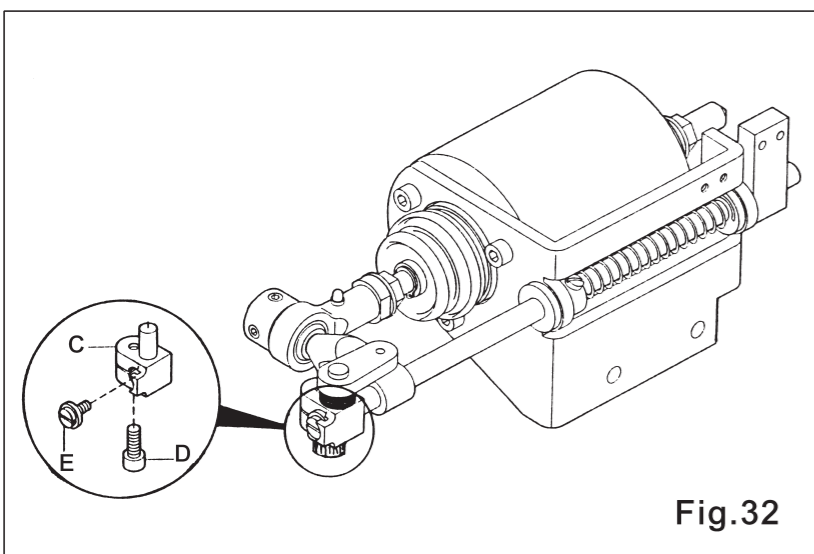
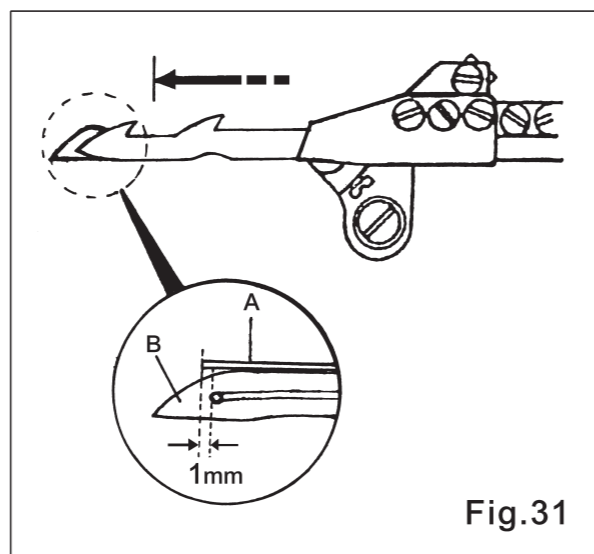

Fig.32
Fig.31
When the Moving Knife move to the left dead point, the tip of Moving Knife has passed 1mm over than the threading hole of looper. (Fig. 31) When you would like to adjust the right & left position of Moving Knife. First, please loose the screw (D) of Connecting Block (C), to turn the screw (E) by screwdriver for micro adjusting the correct right & left position of Moving Knife., then to locked the screw (D) down. (Fig.32)